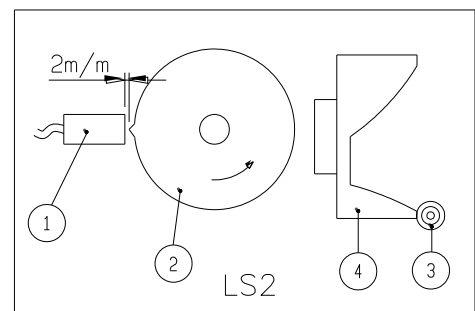

Fig.5.6
LS2: LS2 is the start point of strap-feeding. We use ② to adjust the action time. When LS2 is working, the arm shaft (③) is stopped at the highest position of ④(See Fig.5.6).